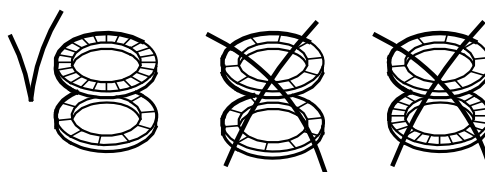

Fig. 27 Correct fitting of washers
8. Fit short spacing pipe (pos. 64a), chamber with holes (pos. 4d) and impeller (pos. 49).
9. Continue the assembly until clamp (pos. 64c). For correct fitting of chambers and impellers, see section 8. *Order of assembly for chambers and impellers*.
10. Fit clamp (pos. 64c), washers (pos. 66) and nut (pos. 67). See fig. 27.